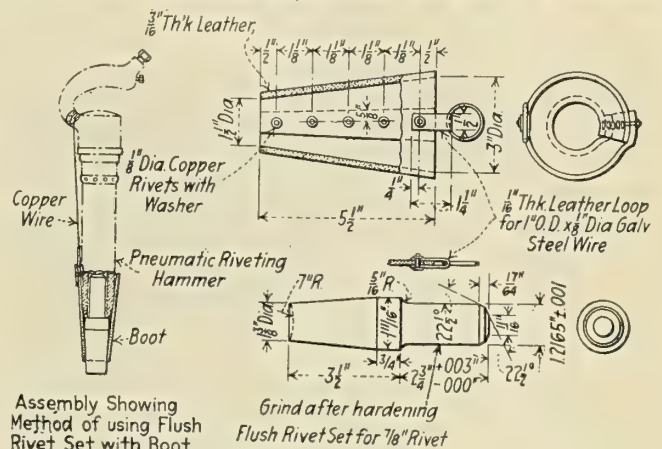

Fig. 12.—Flush Rivet Set and Boot
found that frequently, while the set is in use, the collar will chip off, damaging the set and the riveting gun. The collar was used in connection with a clip that held the rivet set in the gun. This clip was larger in diameter than the barrel of the gun, being too large to permit the operator to close his hand tightly around the set. The clip, moreover, bore on a small area in the palm of the hand in such a way as to make the palm sore in a short time. After some experimenting the type of "boot" shown in Fig. 12, which is made of chrome leather and held in place with copper wire, was found to give much better results. With this "boot" the riveter can encircle the set completely with his hand and consequently has the set in much better control than formerly.
(9) The upper end of the shank has the corners rounded off to a radius of  $\frac{1}{8}$  inch only. A radius of  $\frac{5}{16}$  inch should be used instead, or preferably two conical surfaces as shown in Fig. 12, the conical surfaces constituting a smaller machining operation than the rounded surfaces. The net result is the same, viz., that the diameter of the point of the shank upon which the piston impinges is  $\frac{11}{16}$  inch, the same as the diameter of the point of the piston. This not only prevents the piston and the set from indenting each other, but also prevents upsetting the end of the shank and causing the edges to chip off or expand and jam in the barrel of the gun. This rounding also facilitates the exhausting of air ahead of the piston on the down stroke and likewise facilitates the entry of the air to force the piston back on the return stroke. In this way the piston is given a greater speed, which shortens the operation of driving the rivet.
(10) The fillet at the juncture of the shank and body is  $\frac{3}{16}$  inch in this set. This radius should be  $\frac{5}{16}$  inch to make it correspond with the radius of the inner lip of the riveting gun barrel. When these dimensions are the